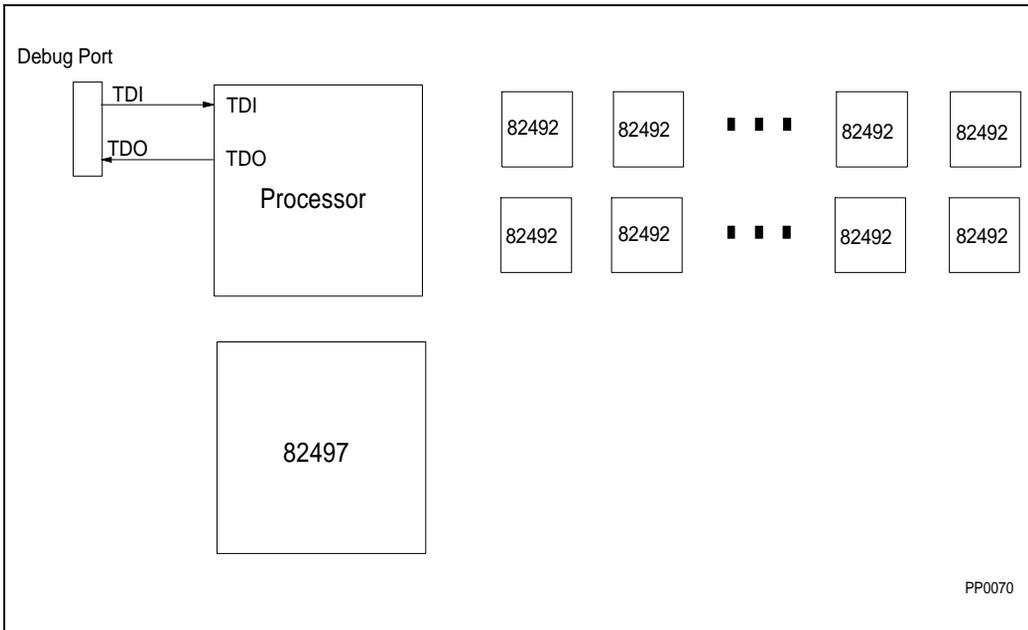
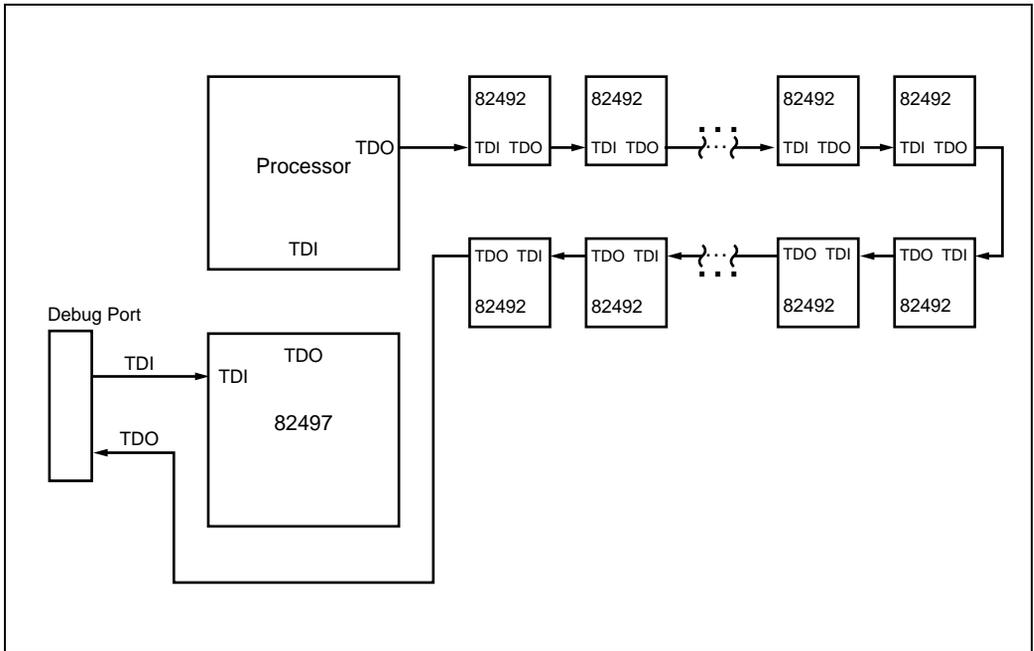

Figure 15-6. Example of CPU Only in Scan Chain
Figure 15-7. Example of Multiple Components in Scan Chain
The debugger software communicates with the CPU through the debug port using the boundary scan signals listed above. Typically, the debugger expects the CPU to be the first and only component in the scan chain (from the perspective of the debug port). That is, it expects TDI to go directly from the debug port to the TDI pin of the CPU, and the TDO pin to go directly from the CPU to the debug port (see Figure 15-6). If you have designed your system so that this is not the case (for instance, see Figure 15-7), you will need to provide the debugger software with the following information: (1) position of the CPU in the scan chain, (2) the length of the scan chain, (3) instruction register length of each device in the scan chain. Without this information the debugger will not be able to establish communication with the CPU.